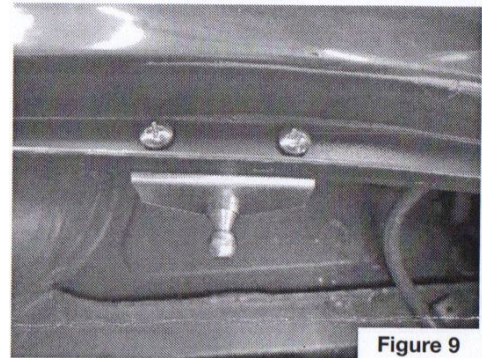

Figure 9
9. Mount the lower strut mount using two machine screws and two external tooth locking nuts. Use a Phillips screwdriver to tighten the machine screws and hold the locking nuts with  $\frac{3}{8}$ " wrench. Refer to figure 9.